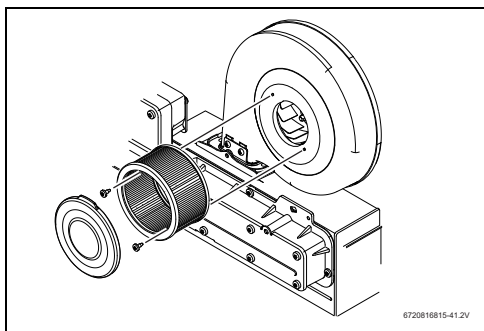

Fig. 50 Remove/assembly air filter
- Verify if the air filter is clean and undamaged. The air filter is attached to the fan assembly, see fig. 50.